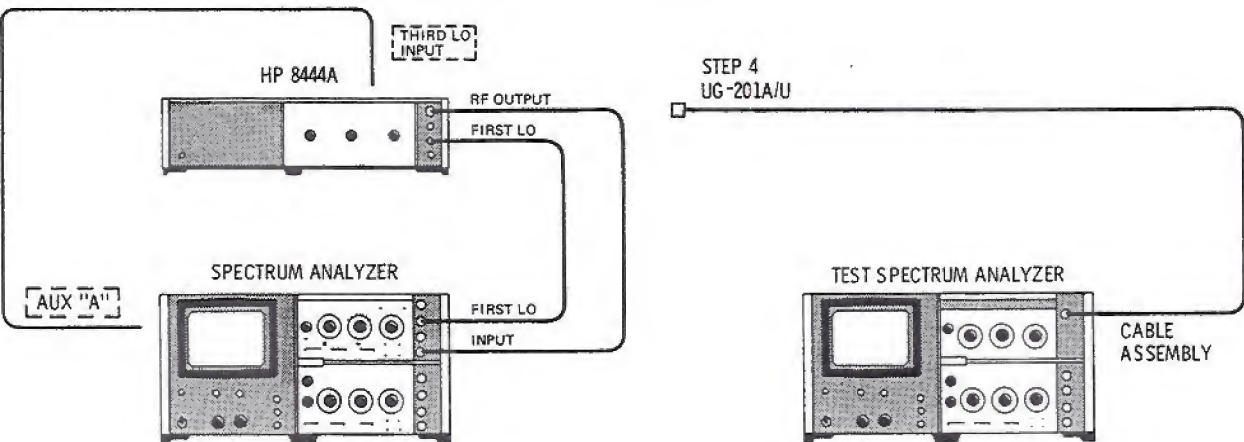

Figure 4-6. Harmonic Distortion Test Setup
2. Connect test setup as indicated in Figure 4-6 and make the following control settings: